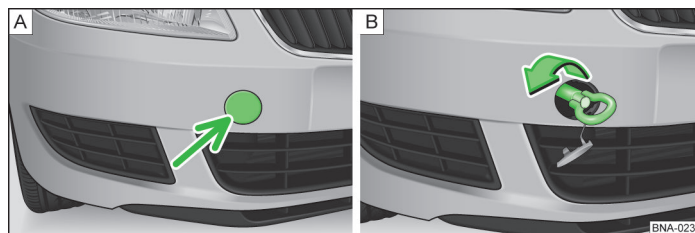

Fig. 89 In the bumper front right: screw in the towing eye
The mount for the screw-type towing eye is located front right in the bumper  fig. 89.
- > Press the left edge of the cover  fig. 89 - **A** - arrow.
- > Screw the towing eye as firmly as possible, **anticlockwise** into the mount  fig. 89 - **B**  . Use the wheel wrench or another suitable object to screw the towing eye fully and firmly into the mount.